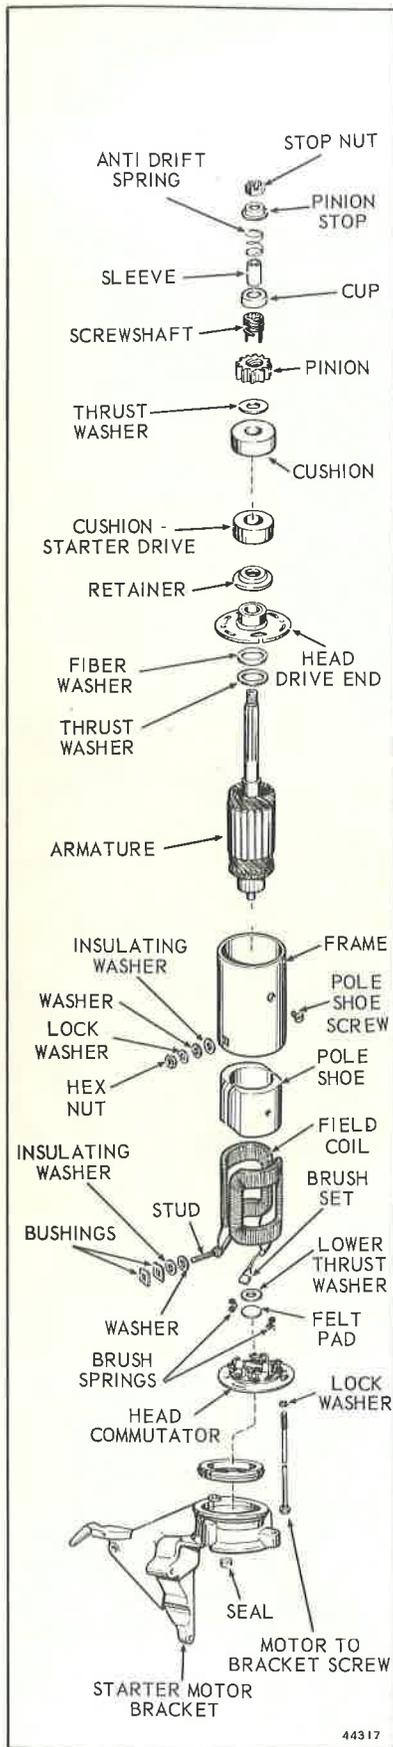

Figure 7-5. Starter Assembly
- b. Remove commutator head by tapping lightly with a rubber mallet. Remove brushes and spring from holder. Lift armature from frame and field assembly. See Figure 7-5.